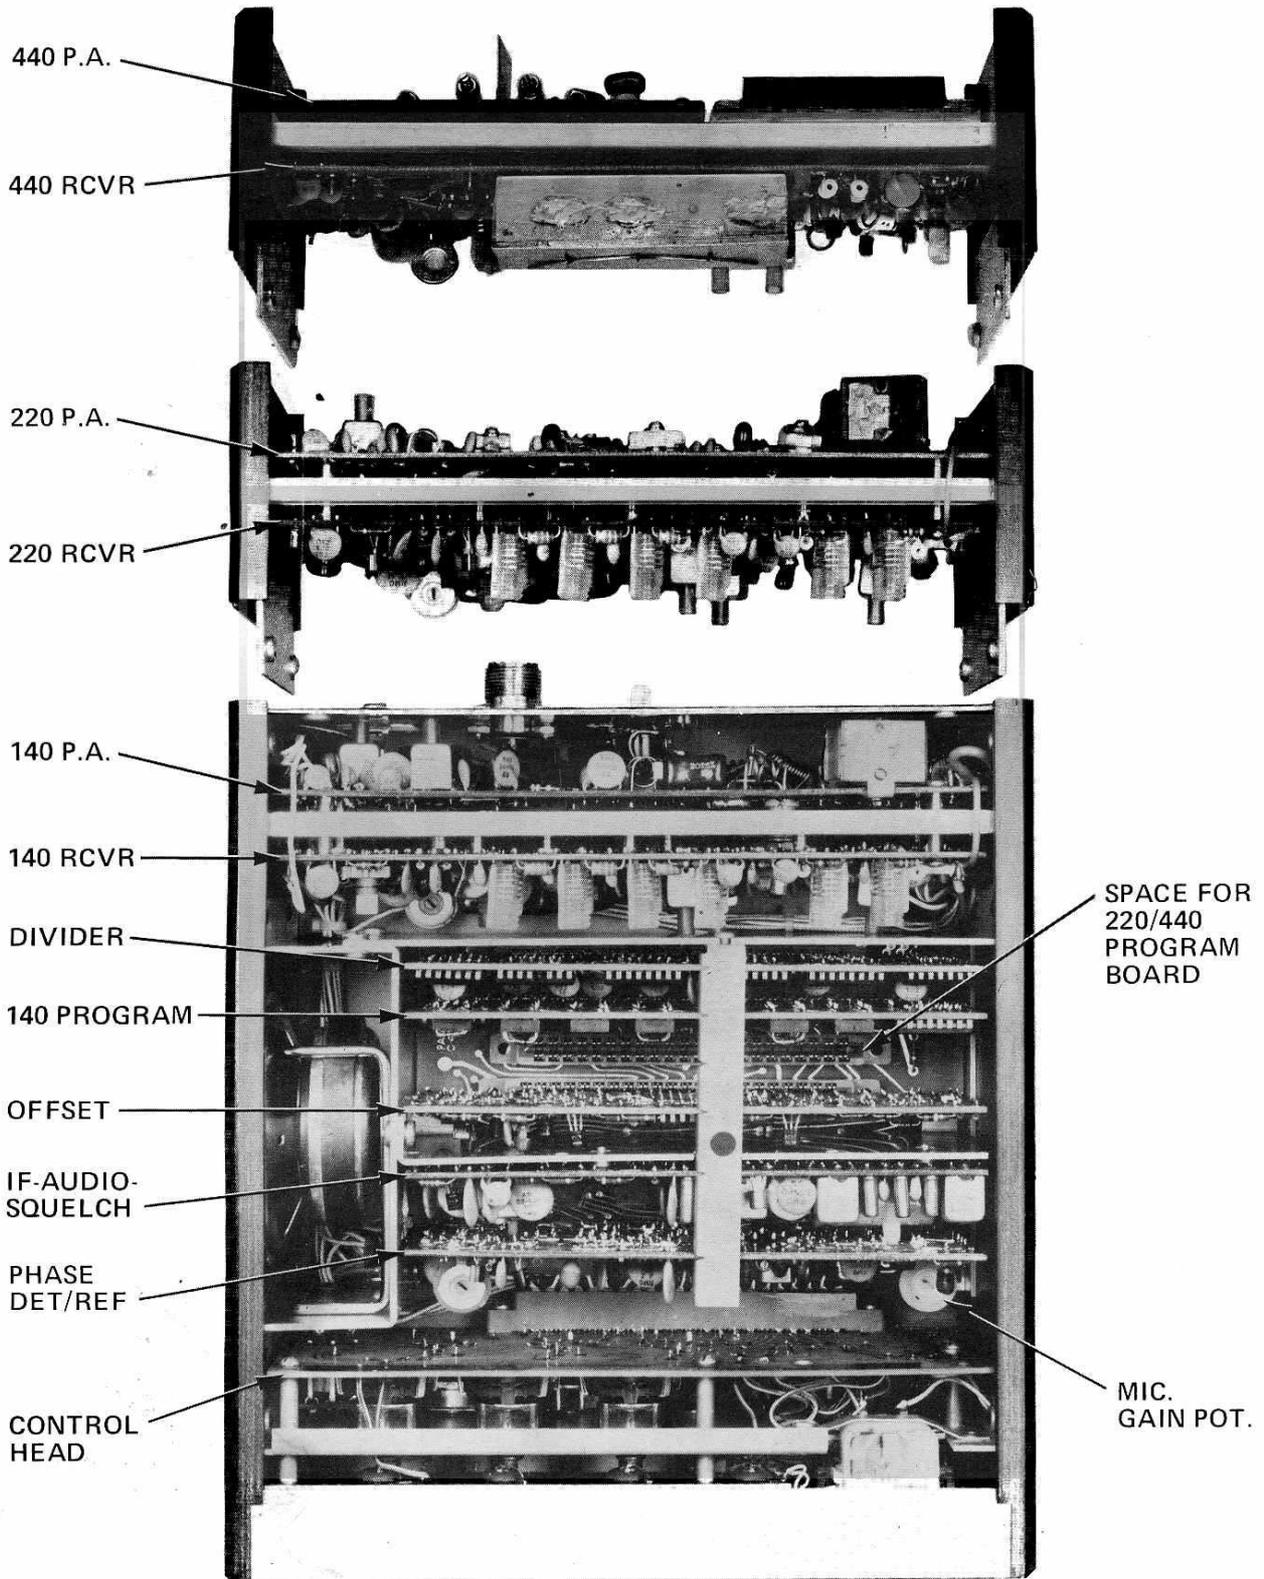
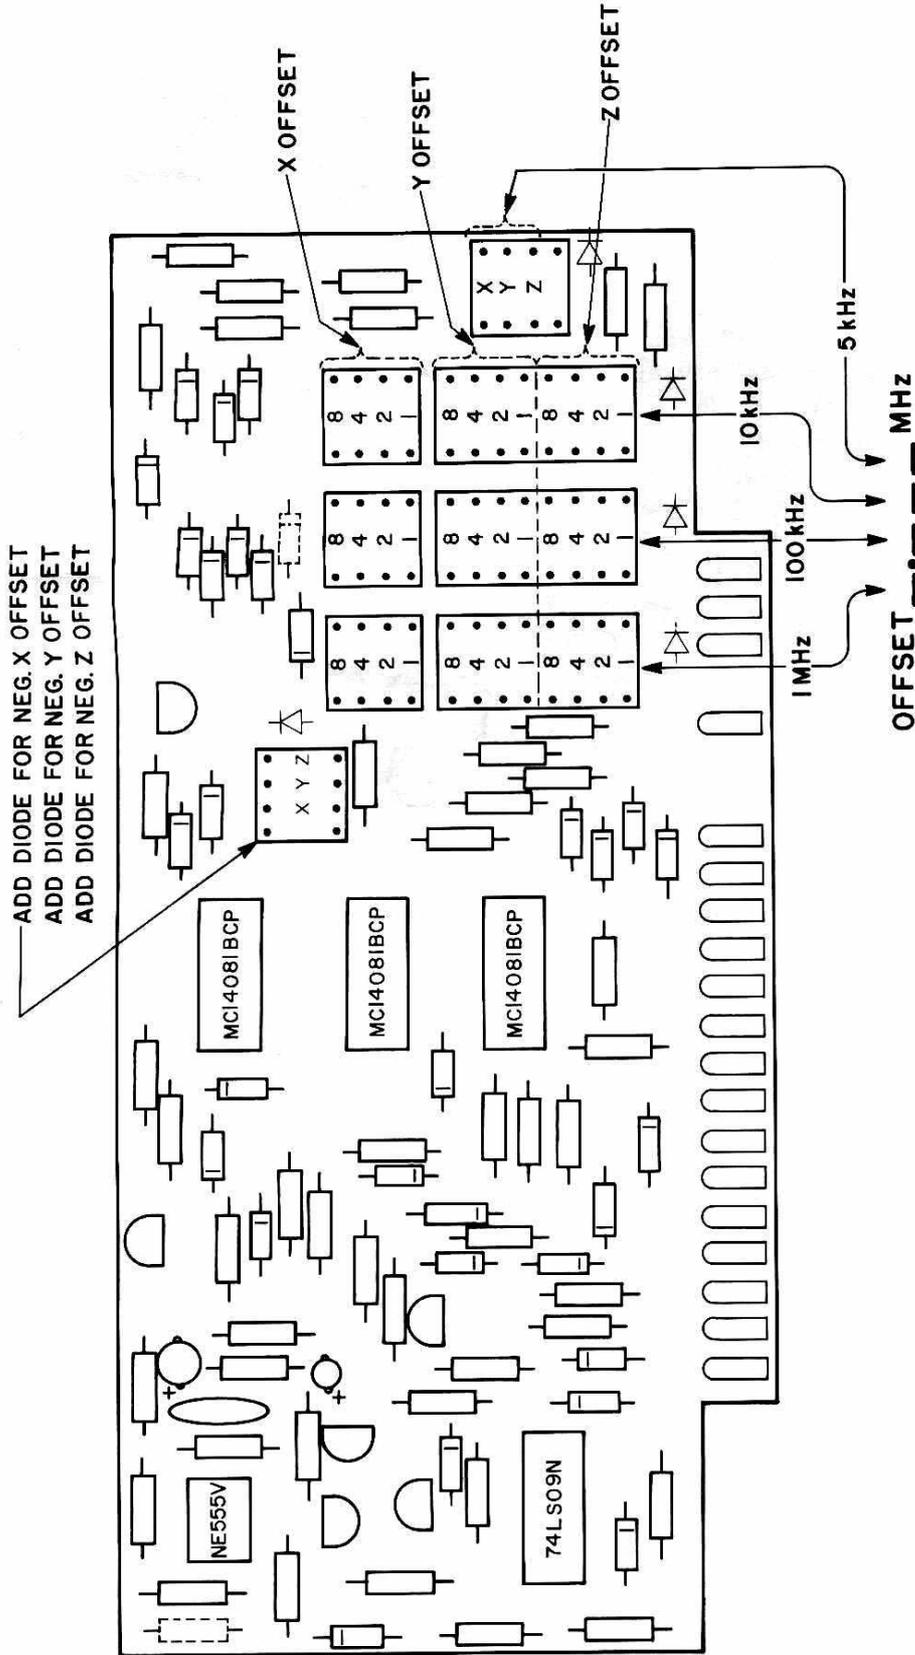

Figure 3-2. Board Locations
Figure 3-4. Offset Board
A standard 500 ohm dynamic microphone is supplied with the UV-3. The microphone is equipped with a #329-1055 connector which mates with the transceiver input receptacle located at the lower right of the front panel. Other microphones may be used with the UV-3, but it is highly recommended that a low impedance (less than 1 k $\Omega$ ) dynamic microphone be used since the audio processing circuitry is designed for dynamic elements. The use of other microphones may necessitate readjustment of the "mic gain" control located on the "Phase Det/Ref" board. See figure 3-2 for placement of the "mic gain" pot. If readjustment is required, it is easily performed by having other stations give reports on microphone level. Do not adjust any controls other than the "mic gain" pot when attempting to readjust microphone level. Refer to the drawing in figure 2-1, when wiring other microphones for use with the UV-3. Make sure ground and shield connections are made exactly as shown. Note that pin 4 is supplied with a DC voltage through a 1 k $\Omega$  resistor. This arrangement provides operating voltage for a Drake 1525 EM encoder microphone, and is not used with other microphones.
The remaining three positions "X", "Y", and "Z" provide offsets which are diode programmed on the OFFSET board. See figure 3-2 for location of the OFFSET board. "X", "Y", and "Z" offsets may be positive or negative as desired and are the same value on all three bands. Complete programming instructions are provided in section 3-5, Programming the Offset Board.
Refer to Figure 3-2. Board Locations, for exact placement of the 140 PROGRAM BOARD. Remove the board using the board puller, and position with the edge connector at bottom as shown on the 140 PROGRAM BOARD. There are 6 columns of integrated circuit sockets labeled A through G. Each column is made of two (2) IC sockets; each socket will accommodate eight (8) diodes. The top four (4) rows of each column are used to program Channel 1. The BAND switch programs 140 megahertz into the synthesizer in the
The CHANNEL selector switch allows selection of four diode programmable channels each, for the 220 MHz and 440 MHz bands. Programming the 220/440 PROGRAM BOARD is similar to programming the 140 PROGRAM BOARD, that is, the *receive frequency and transmit offset frequency* are programmed. Refer to Figure 3-2. Board Locations, for exact placement of the 220/440 PROGRAM BOARD. Figure 3-6 and figure 3-7 are both concerned with programming the 220/440 PROGRAM BOARD. For purposes of clarity, only 220 MHz programming is shown in figure 3-6 and 440 MHz programming is shown in figure 3-7.
Refer to Figure 3-2. Board Locations, to determine the location of the OFFSET BOARD. Remove the OFFSET BOARD only with the board puller. Figure 3-4. Offset Board, shows the program sockets used for programming the X, Y, and Z values of offset. Diodes are plugged into integrated circuit sockets exactly as on the 140 PROGRAM BOARD. Figure 3-4 shows three sections of IC socket positions that correspond to X, Y, and Z offsets. A single four position IC socket is used to program the 5 kHz value of offset (one position is not used). Also, a single four position IC socket is used to program the direction of the transmit offset.
The scanning interval is preset to approximately 3 seconds, but may be changed if desired. Figure 3-4. Offset Board, shows an adjustment resistor for the scan interval, located in the extreme upper left corner of the board. The normal value of the resistor is 470 kilohm and it is this value that determines the 3 second interval. This resistor may be